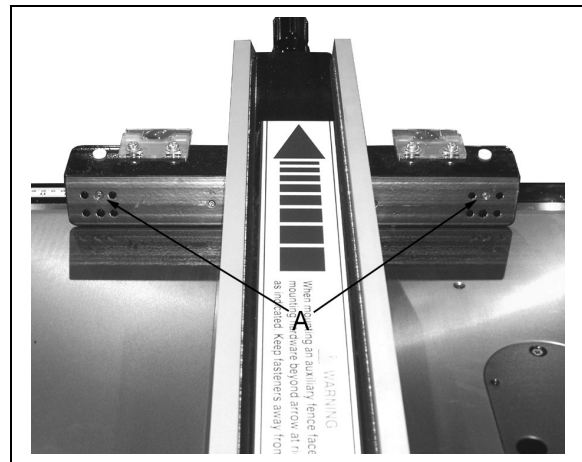

Figure 8
3. If the fence is not parallel to the mitre gauge slot, lift the fence off the guides and place it on the table as shown in Figure 8. Turn the appropriate screw, A to compensate for the difference. Place the fence back on the guides and check again for alignment to the mitre gauge. If it is still mis-aligned, repeat the procedure.